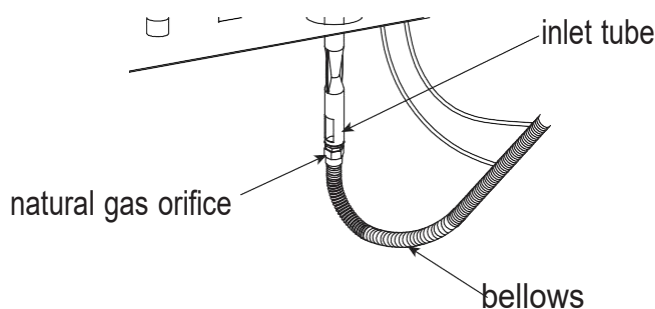

Figure 10
3. Replace the propane orifice with the natural gas orifice and screw the natural gas orifice to the bellows tightly. Then connect and tighten the natural gas orifice to the inlet tube (see Figure 10). The Natural gas orifice (4.18 mm diameter size ) is painted with a black mark.